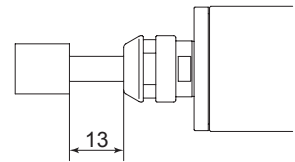

Fig. 20
- ① The proper surface speed for general grindstones is 10 - 30m / s.
- ② Do not exceed 13mm of overhang for mounted grindstones as shown in Fig. 20. If the overhang must exceed 13mm, reduce the motor speed in accordance with Table. 4.
- ③ Dress the grindstone prior to use.
- ④ Do not use cutting tools with bent or broken shanks, cracks or excessive run-out.
- ⑤ For grinding, the maximum depth of cut should not exceed 0.01mm radially or axially. Reciprocate the tool several times after each pass to eliminate tool pressure.
- ⑥ Always operate cutting tools within the allowable recommended speed of the cutting tools. Use of a cutting tool outside of the allowable speed of the cutting tools could cause damage to the spindle and injury to the operator.
- ⑦ Keep the cutting tool shank and collet clean. If contaminants are left in the collet or collet nut, excessive run-out will cause damage to the cutting tool and or spindle.
- ⑧ Do not strike or disassemble the spindle.
- ⑨ Please set the cutting tools to minimize the overhang amount. 13mm is the maximum amount of overhang to maintain high accuracy and safety.